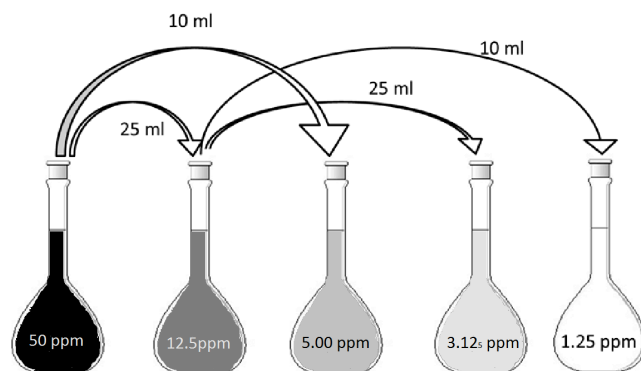

Figure 1. Schematic of the **Serial Dilution** process used for both dyes for this experiment.
- Figure 1- A plot of Abs. vs. λ including λ_{max} . Use the figure caption for annotations.